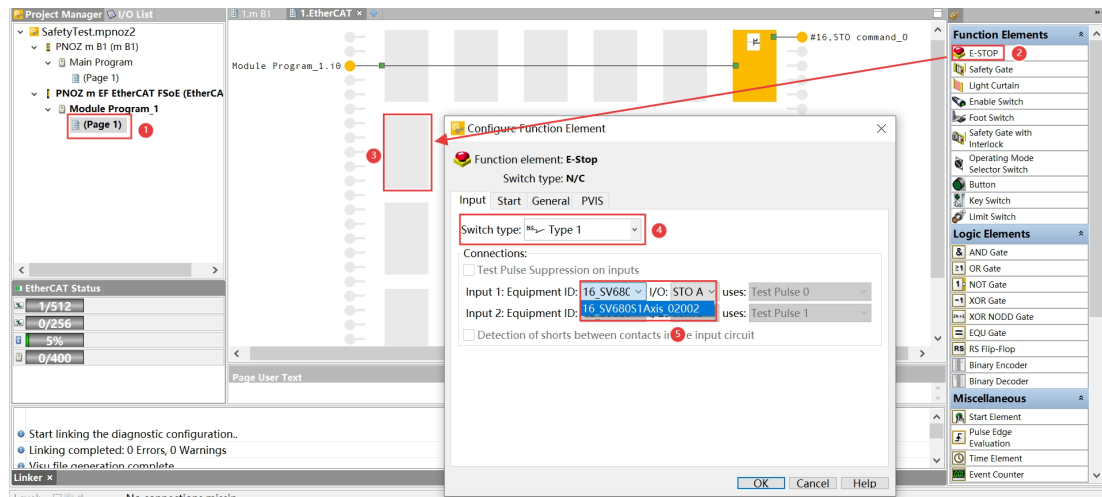
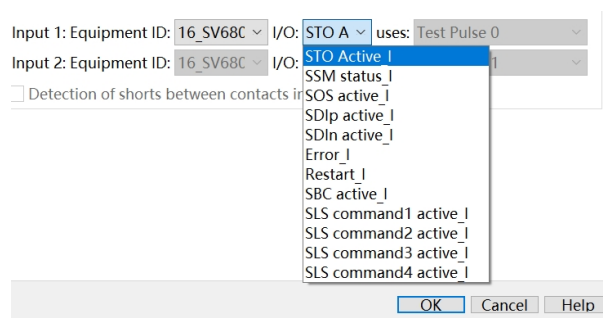

Figure 14-40 Configuring FSoE output
Figure 14-41 Selecting the safety function status
i. Switch to the module program page, drag the emergency stop button function block into the leftmost rectangular blank slot, select the switch type as Type 1, and Device ID as 1_SV680S1Axis_02002, as shown in “Figure 14-40 Configuring FSoE output” on page 652. Select the safety function output status corresponding to step c for the "Input/output", and click the **OK** button at the bottom of the window to complete the setting. See “Figure 14-41 Selecting the safety function status” on page 652.